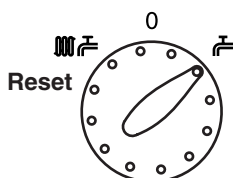

Fig. 7
5. Position (ii) In this position hot water will be provided when a tap or shower is turned on (Fig. 7).